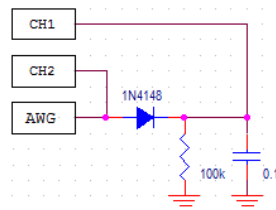

Figure 63: Half wave rectifier circuit
- 1) Build the circuit shown on figure 63.